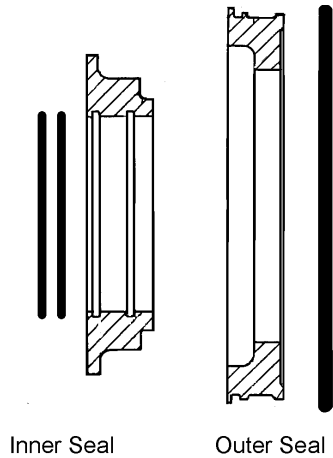
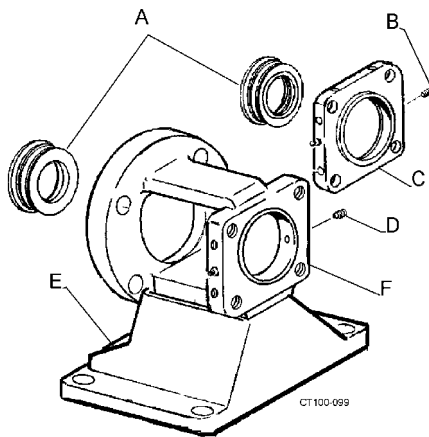

Figure 29 - Seal Configuration
Figure 30 - Outer Seal Assemblies
10. **For Style C;** Remove stand/housing assembly, than remove end cap. (Figure 30, item C on page 41).
3. Remove the outer seal ring assemblies (the inner seal ring and O-rings). (Figure 28) and Figure 29.
**NOTE:** Figure 29 shows seal position at motor end. Seals at pump end face inward. Make sure to tighten set screws when installing outer seal assemblies. (Figure 30).